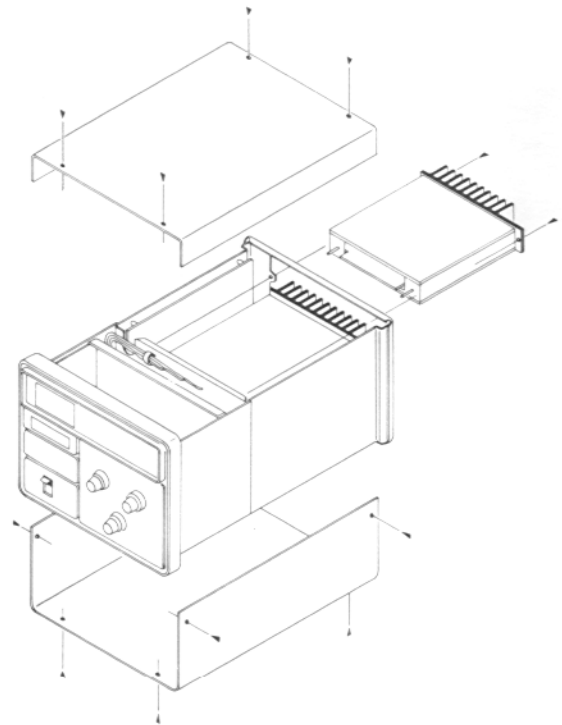

Figure 1
1. Remove the two screws fixing the top and bottom covers of the FT-102. 2. Remove the cover (Figure 1).
1. Remove the twelve screws affixing the top and bottom covers of the FTV-901R, and remove the covers (Figure 1).